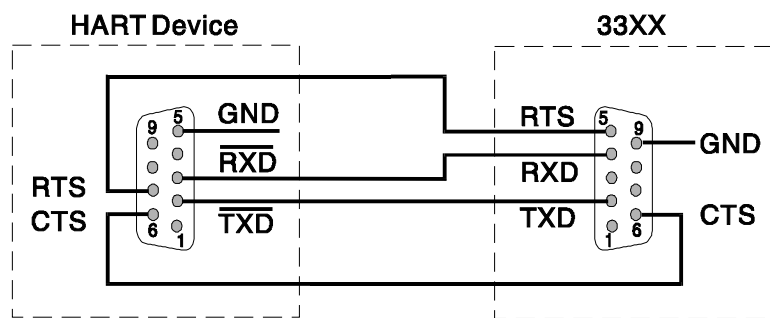

Figure 6 - 33XX RS-232 Cable
2.2.2 RS-232 Interface - To a Single HDI Board (see Figures 6, 7 & 8)
3. Configure the 33XX Port in question for RS-232 operation (see the HART Master Protocol Manual, Document # D4068 if HART operation is required or the ACCOL II Reference Manual, Document # D4044 when interfacing to a 3508 transmitter). Connect the port in question to J1 of the HDI board (see Table 1 for HDI - J1 designations) (see Figure 6 for 33XX RS-232 cable designations).